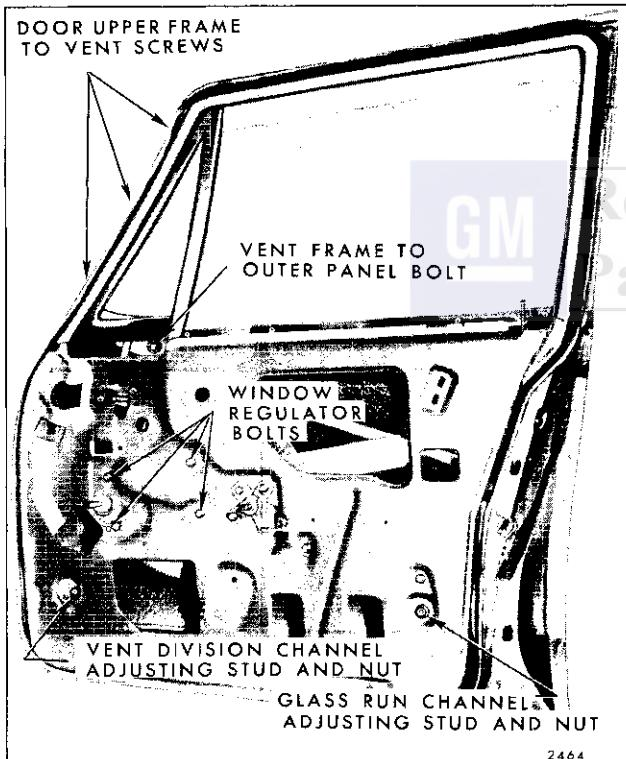

Fig. 6-73—Door Ventilator and Regulator Attachment — "B" Styles Shown, "A" Styles Similar
4. Remove ventilator division channel lower adjusting stud and nut and window regulator attaching bolts (Fig. 6-73).
3. Remove window regulator attaching bolts (Fig. 6-73) and remove regulator through access hole.